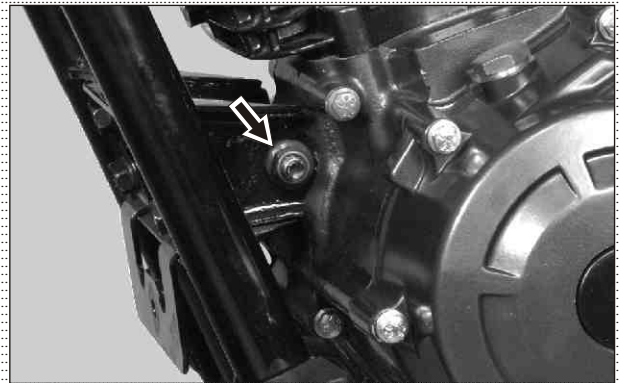

Fig. 3.43
- Remove hexagonal flange bolt (M8x72 - 1 no) from the front mounting of engine. (Fig. 3.43)